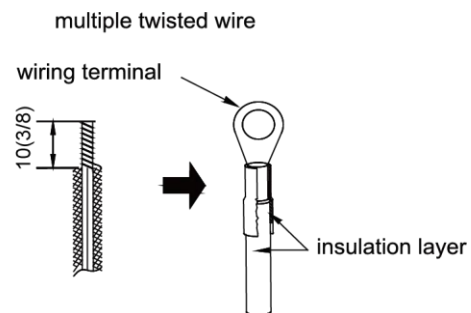

Fig. 5.1.2
- (2) The connection of stranded wire (as shown in fig. 5.1.2)